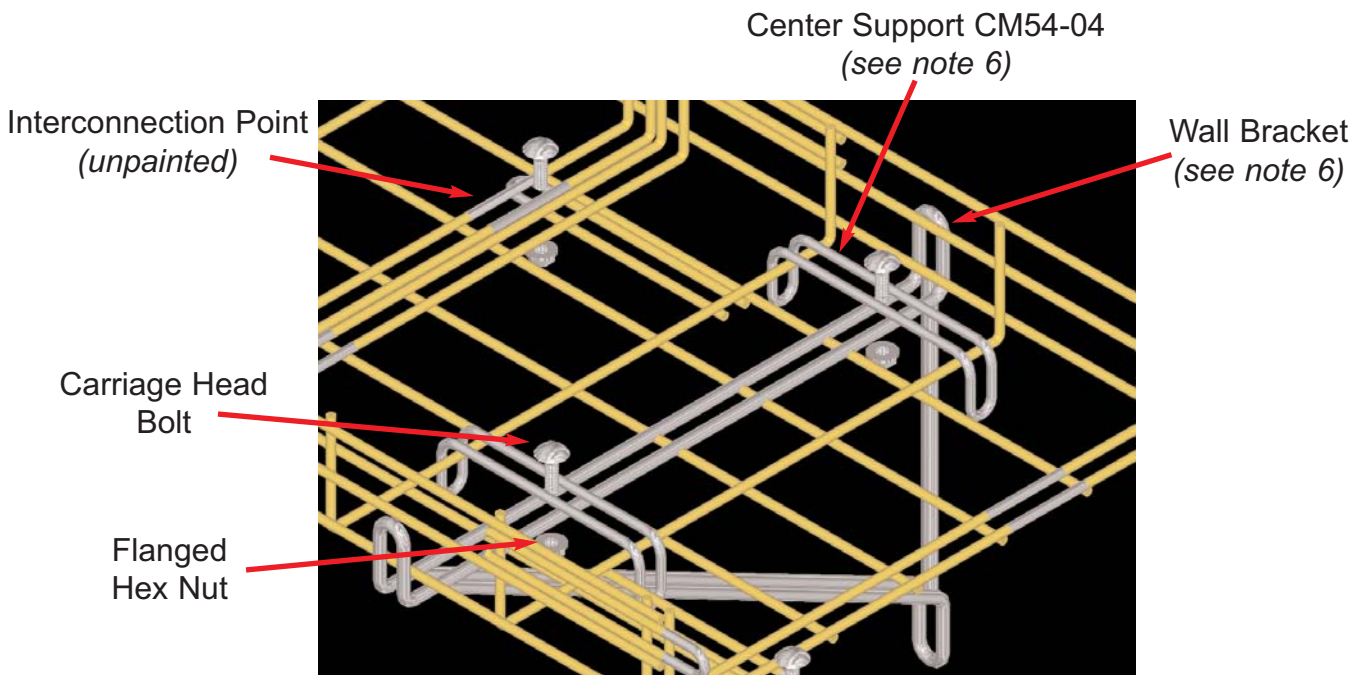

FIG. 2
6. It is recommended cable tray sections be secured to the support or mounting brackets at random intervals using a 4 inch center support (CM54-04), or a standard cable clamp. If the support location is at the connection loop area, use a carriage bolt and flange nut to secure it to the tray (**See fig. 2**).